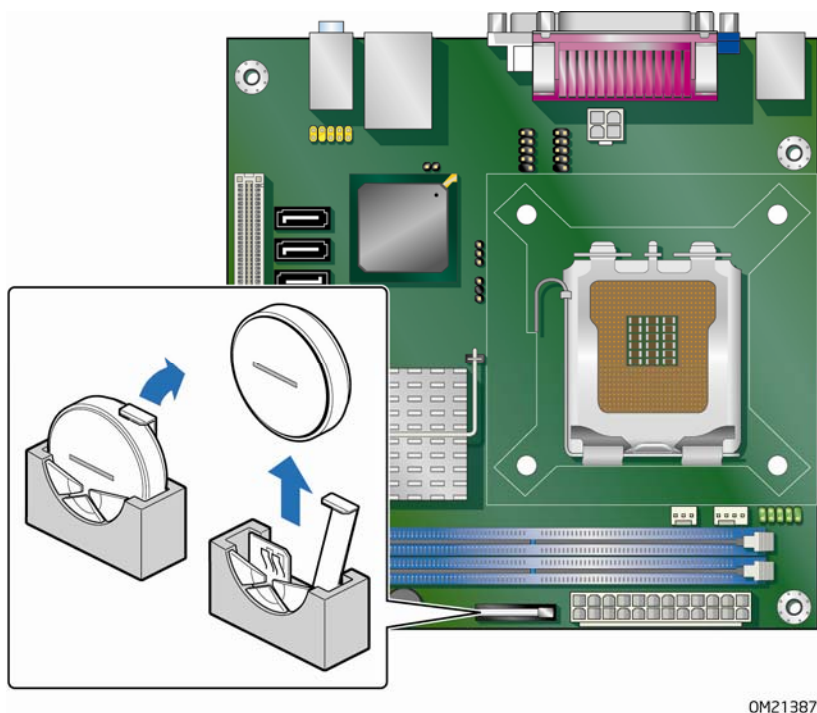

Figure 23. Removing the Battery
When the voltage drops below a certain level, the BIOS Setup program settings stored in CMOS RAM (for example, the date and time) might not be accurate. Replace the battery with an equivalent one. Figure 23 on page 51 shows the location of the battery.
4. Locate the battery on the board (see Figure 23).
5. Push the battery retention clip aside and remove the battery from the connector as shown in Figure 23. Note the orientation of the "+" and "-" on the battery.